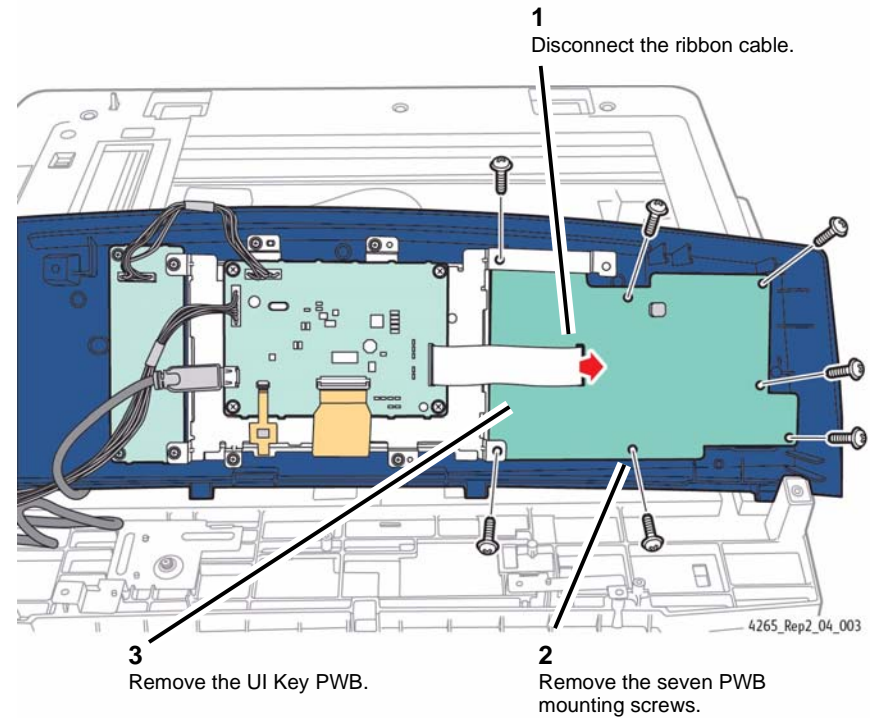

Figure 3 Removing the User Interface Key PWB
3. Remove the User Interface Key PWB (Figure 3).